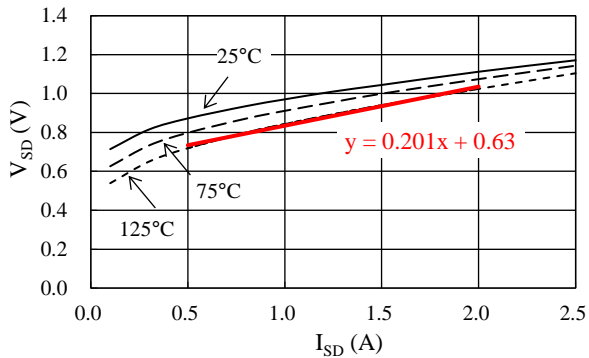

Figure 14-4. Linear Approximate Equation of V_{SD} vs. I_{SD}
Steady-state loss in the body diode of a power MOSFET can be computed by using the V_{SD} vs. I_{SD} curves, listed in Section 15.3.1. As expressed by the curves in Figure 14-4, a linear approximation at a range the I_{SD} is actually used is obtained by: $V_{SD} = \alpha \times I_{SD} + \beta$. The values gained by the above calculation are then applied as parameters in Equation (11), below. Hence, the equation to obtain the body diode steady-state loss, P_{SD} , is: